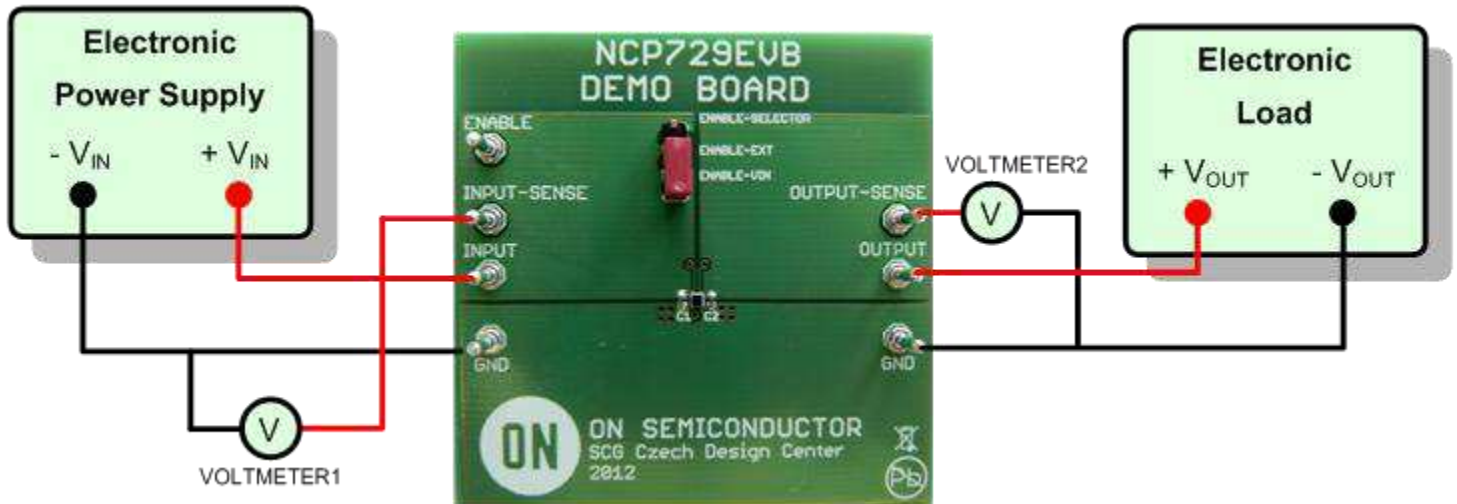

Figure 1. Test setup for the measurements of basic regulation characteristics
1. Connect the test setup as shown on Figure 1
- Connect the test setup as shown on Figure 1